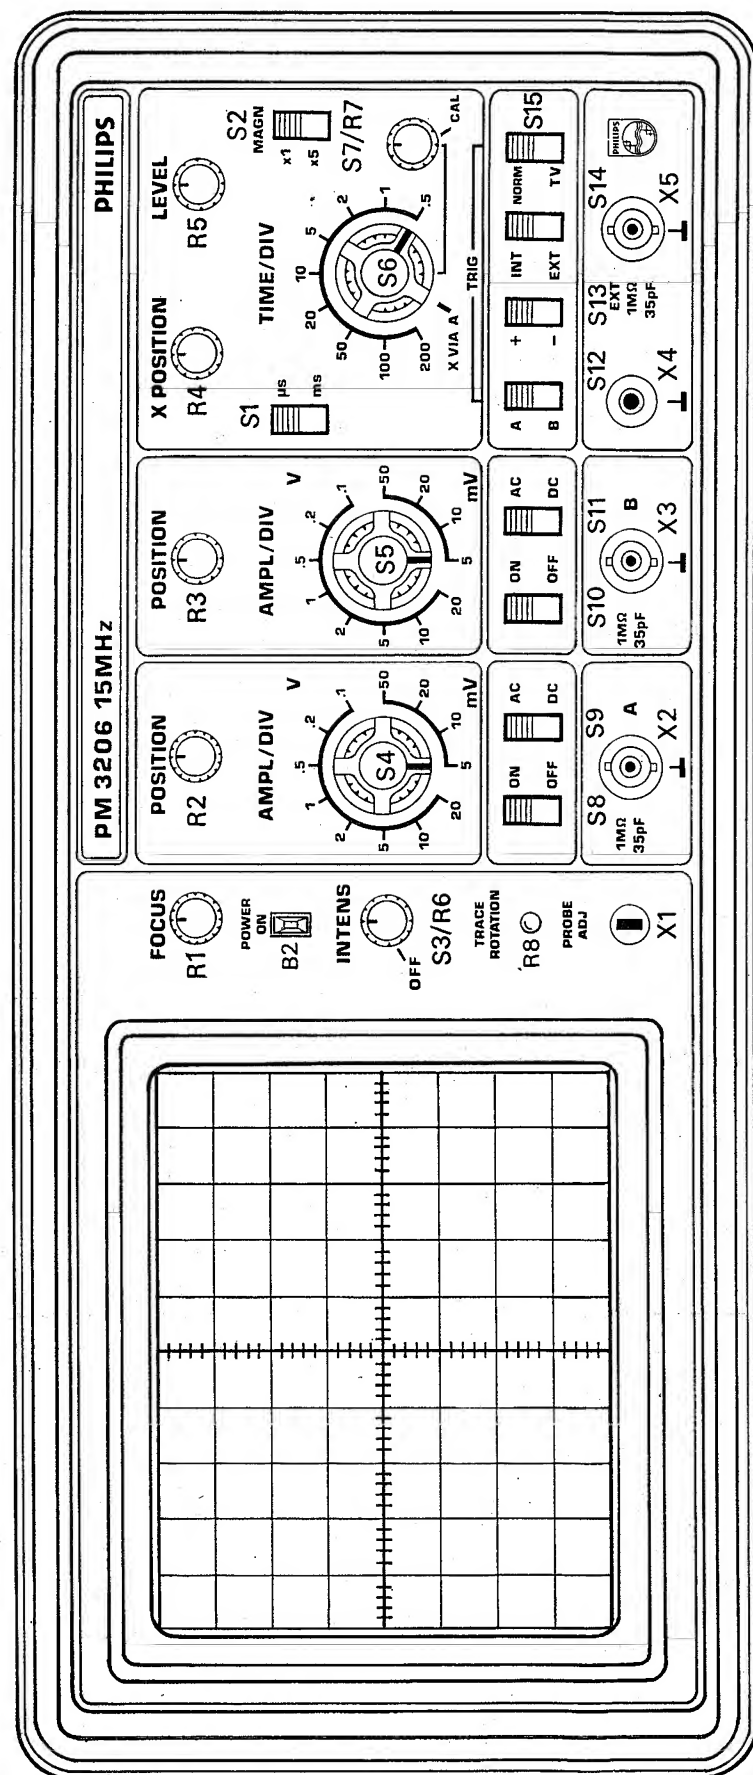

Fig. 4.1 Preliminary Settings of the controls
- Set the controls as indicated in fig. 4.1.